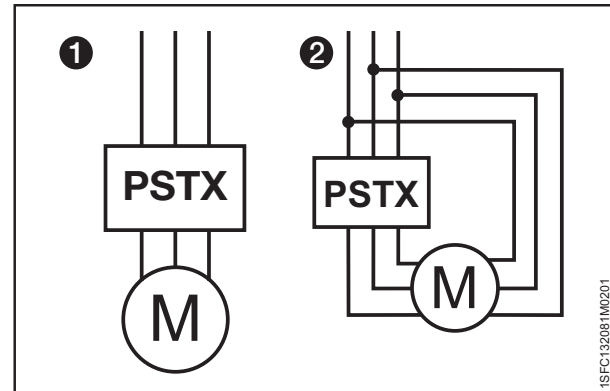
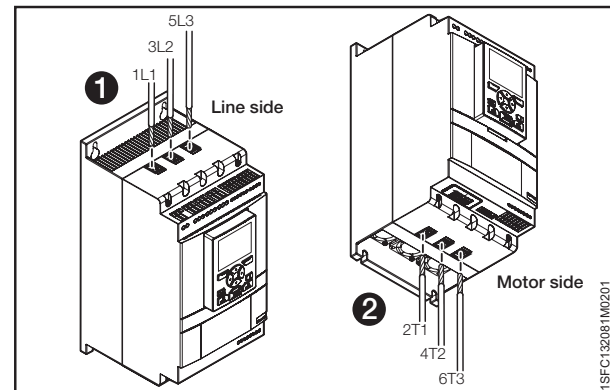

Figure 5.1
Figure 5.2
Softstarters PSTX30...PSTX1250 can be connected In Line, see **1** **Figure 5.1**, and Inside Delta, see **2** **Figure 5.1**. Use wire connection for PSTX30...105 see **Figure 5.2** Terminal connection for PSTX142...1250 see **Figure 5.3**.
- Connect the line side to terminals 1L1, 3L2, 5L3, see **1** in **Figure 5.2** and **Figure 5.3**.
- Connect the motor to terminals 2T1, 4T2, 6T3 on the motor side, see **2** in **Figure 5.2** and **Figure 5.3**.